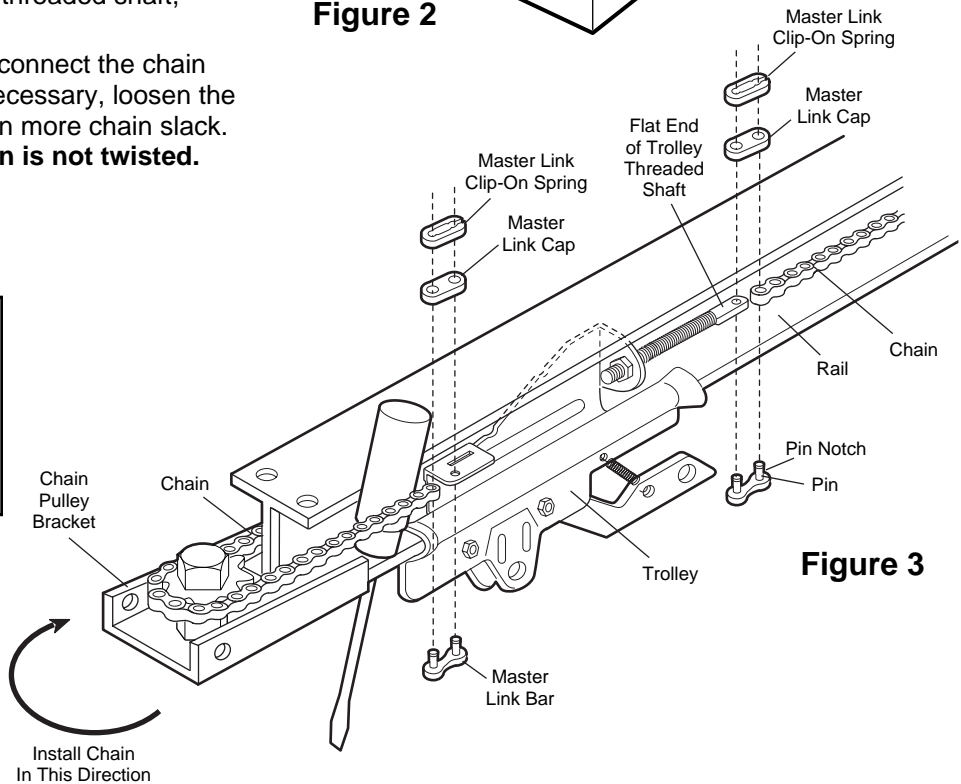

Figure 2
- Proceed back around the rail to the power head, Figure 2. Guide the chain around the chain spreader and sprocket. Be sure sprocket teeth engage the chain.